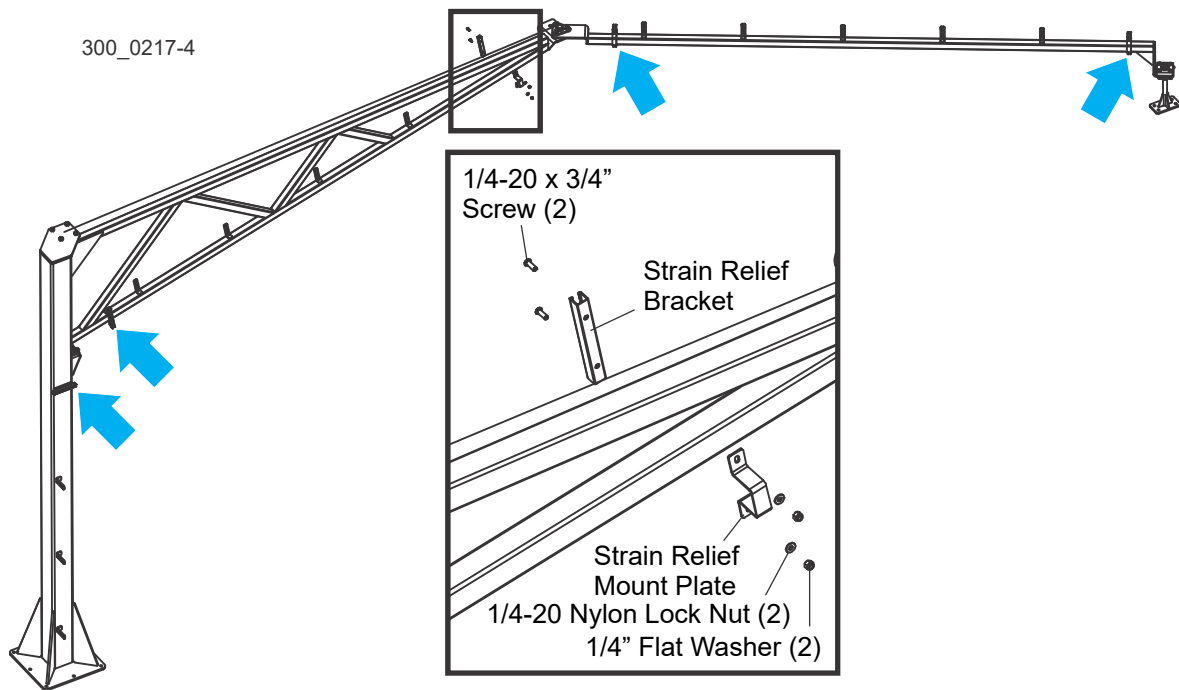

FIG. 3-15
See Figure 3-15.
10. Assemble the strain relief brackets. (See Figure 3-15.)